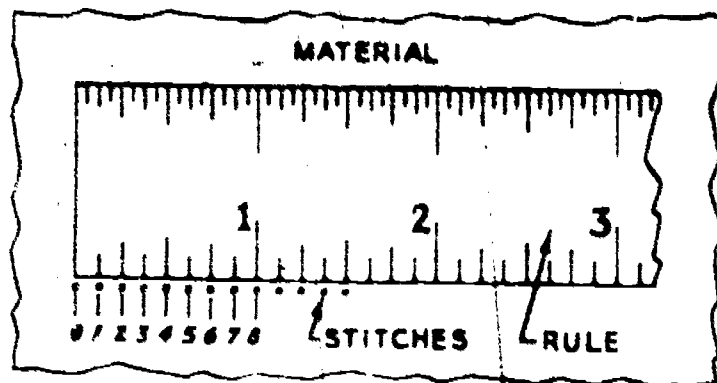

Figure 42. Checking Stitches Per Inch.
3. Use a rule and count the actual number of stitches per inch being sewn. Place the first stitch at the edge of the rule and count the stitches as shown in figure 42. If the actual count and the number in the hole in the machine arm are the same, the feed indicating disk is properly set. If the actual count is different, set the indicator disk.